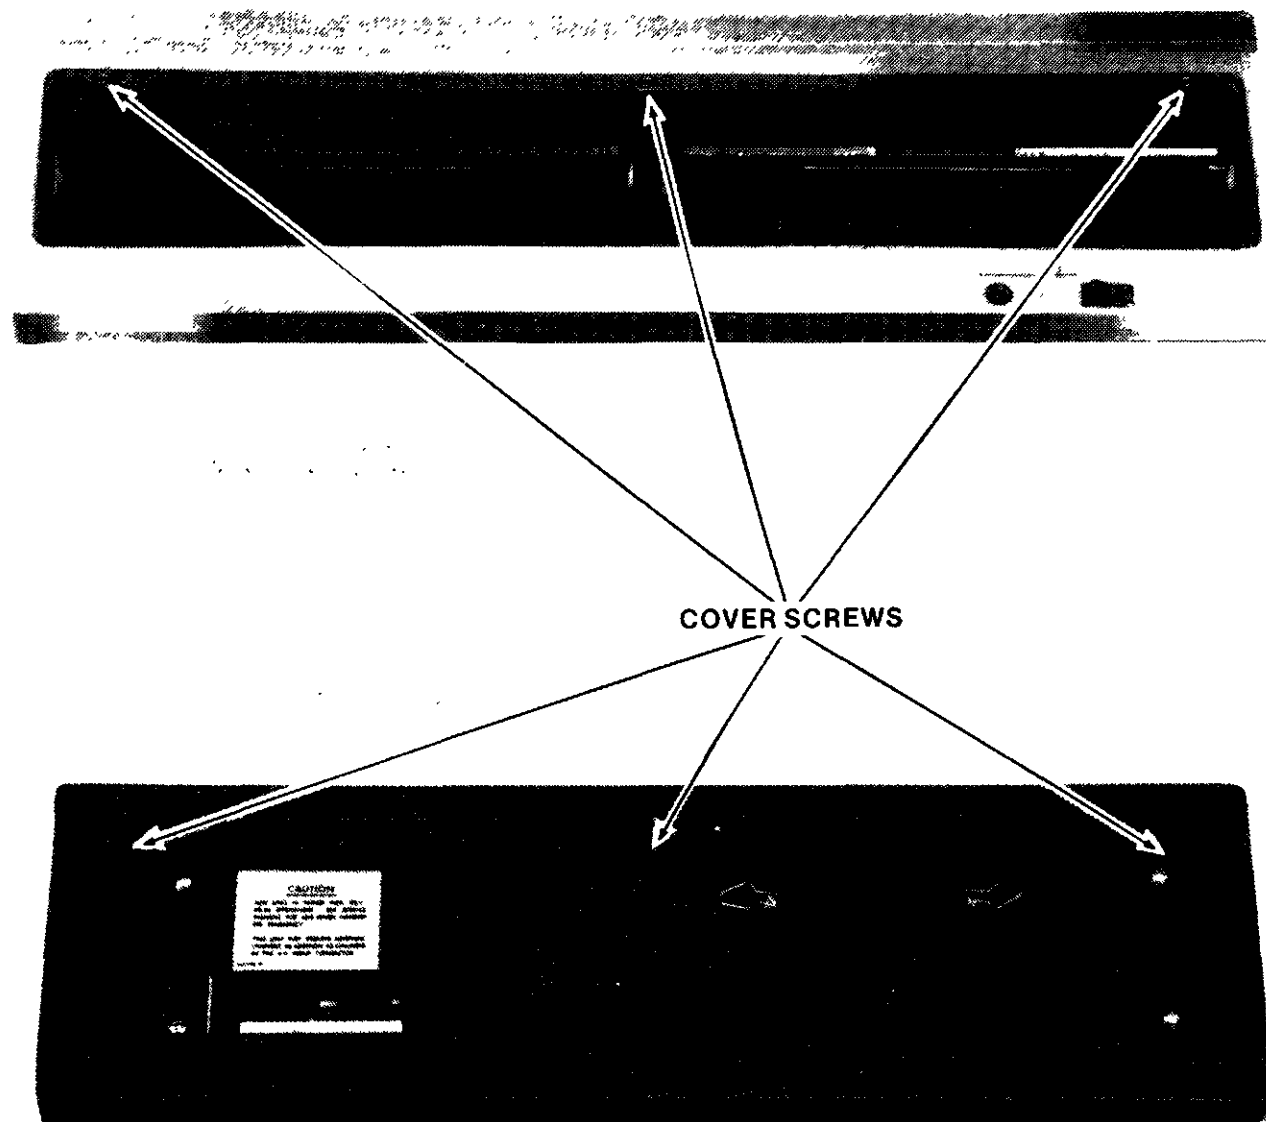

Figure F-2. Dual Drive Chassis Top Cover Removal
- Referring to figure F-2, remove the six Allen screws that secure top cover panel to drive chassis (a 7/64-inch angled Allen wrench is required) and remove top cover panel.